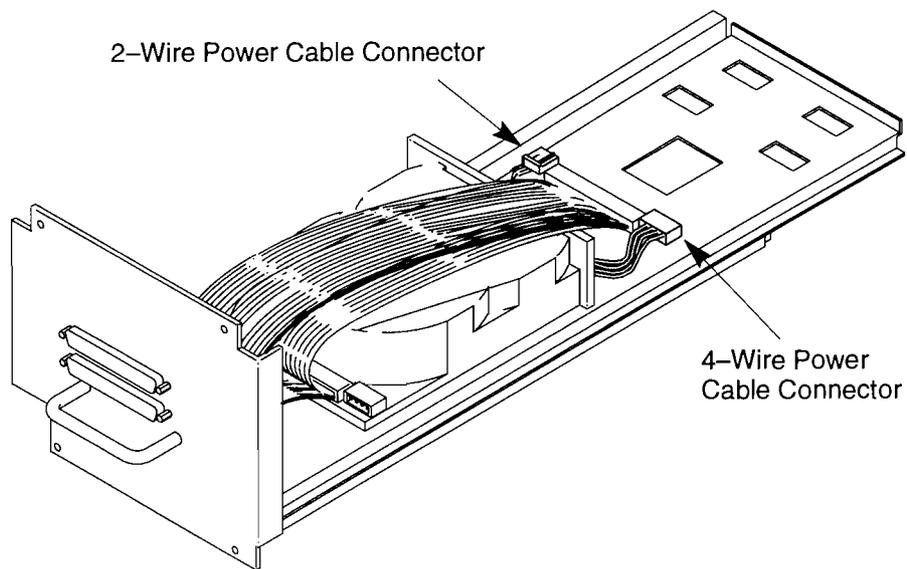

Figure B-18. Rearranging the Cables
5. Pull the 2-wire power cable out from the channel in the bottom of the tray, and tuck the 4-wire power cable into the bottom of the disk tray assembly (see Figure B-18).